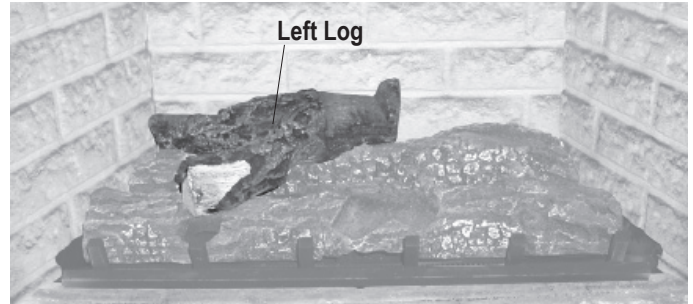

Figure 13d. Left log placement.
4. Place the left, centre, and right logs in sequence from left to right as shown in figures 13d, 13e, and 13f.